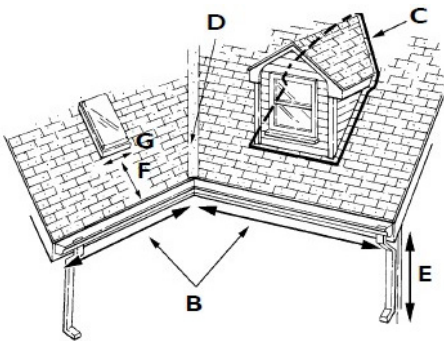

Figure B-3. Roof Measurements
STEP 1. For each area listed in Table B-5, measure the required dimensions (see Figure B-1 on page 23 and Figure B-3) and calculate the length of cable needed. Add each “area” calculation to determine the total cable length needed.
This example shows how to estimate the cable length needed for a limited problem roof area – a skylight (see Figure B-3 on page 26). For this roof, you would like to treat only the problem area underneath the skylight.